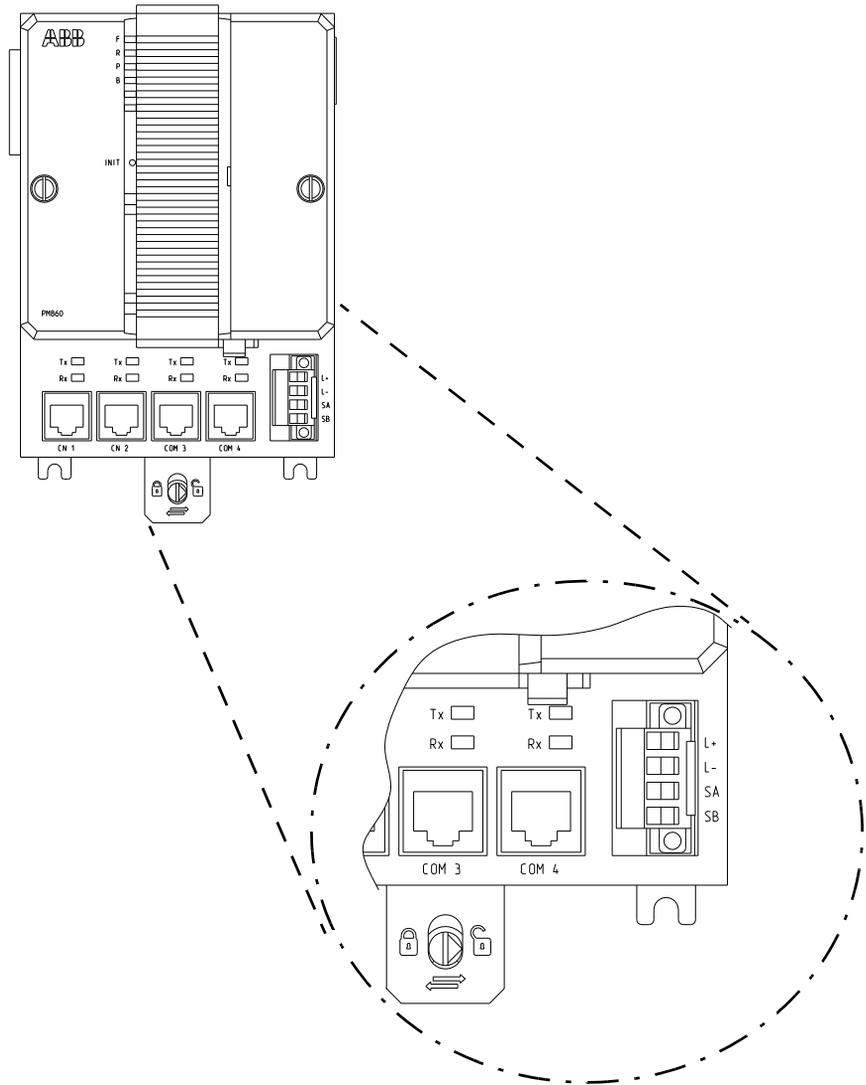

Figure 28. SA/SB Connectors for Supervision Signals
- a. Connect the power leads and, if applicable, power supervision signals from SS82x to screw terminals SA and SB (see Figure 28 on page 83).
- a. Connect the power leads to both CPUs and the power supervision signals from SS8xx to screw terminals SA and SB (see Figure 28 on page 83).